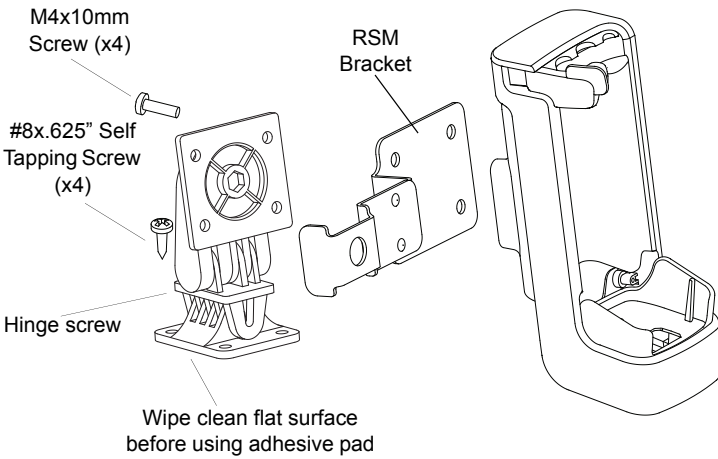

Figure 2. *When installing the cradle, use the following procedure or modify to suit the particular vehicle*
When installing the PMLN7018 Passive Vehicular Holder Kit, follow the following procedure or modify to suit the particular vehicle. See Figure 2:
5. Secure the cradle/holder to the other half of the bracket using the four M4x10 mm screws, you may choose to sandwich the RSM bracket in between or install it separate as shown in Figure 2.
Identify the malfunction in accordance to Figure 2.